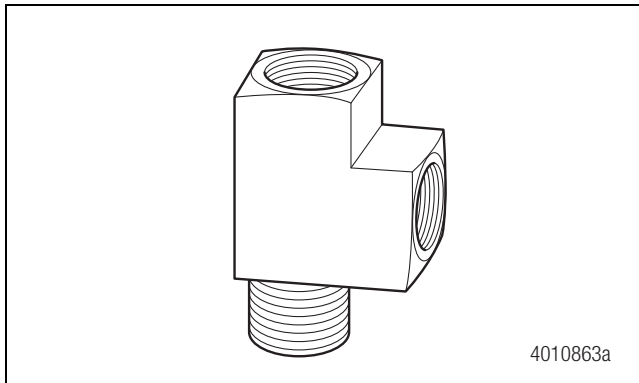

Figure 11
2. Replace the fittings with 1/4" (6.35 mm) street T fittings. Figure 11.